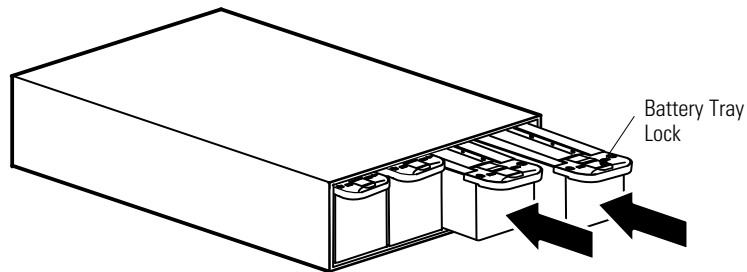

Figure 11. Installing the Battery Trays
3. Slide the battery trays into the cabinet (see Figure 11). Push each tray in until the battery tray lock on the handle catches to lock the tray in place.